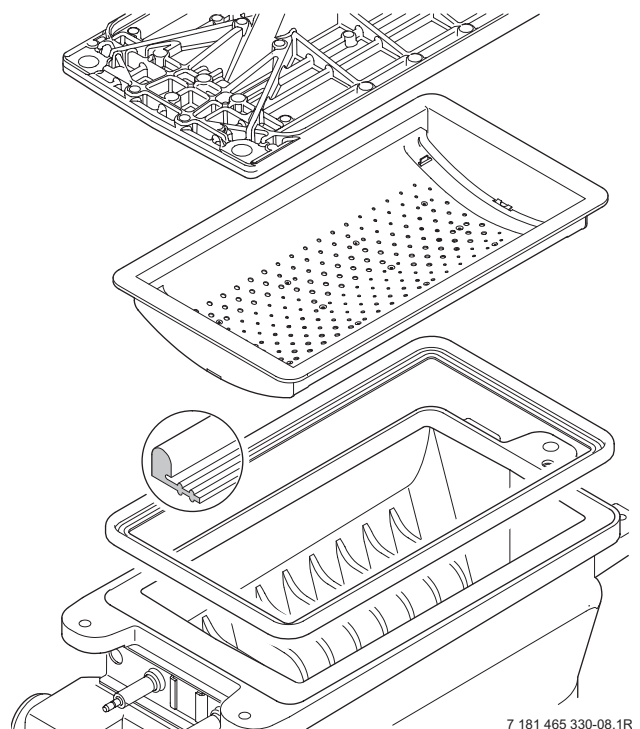

Fig. 56
- ▶ Remove burner and clean components. Do not use a wire brush. Refer to fig. 56.